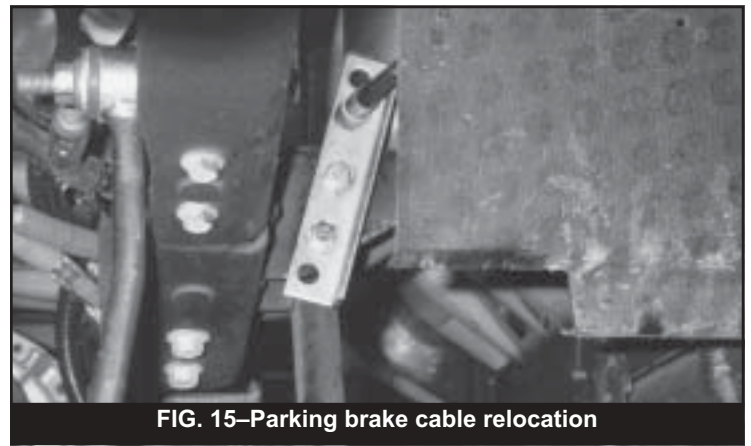

FIG. 15—Parking brake cable relocation
63. Install the parking brake relocation bracket (Fig. 15). Attach the bracket to the stock cable mounting hole using a 5/16" x 1-1/4" bolt, nut, and two 5/16" SAE washers. Do not tighten.